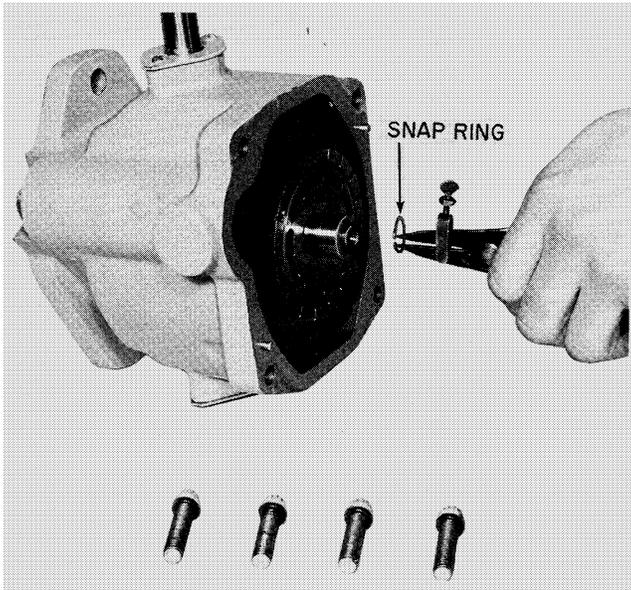

FIGURE 15
5. Remove snap ring from motor shaft with snap ring pliers. See Figure 15.